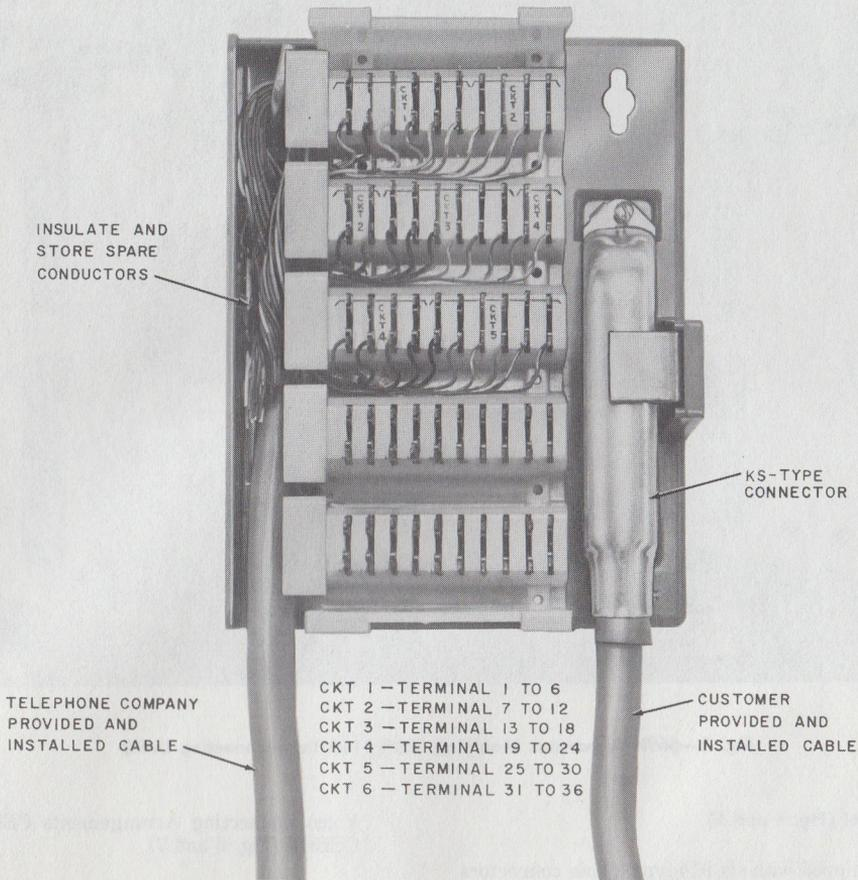

Fig. 3—66E3-25 Interface Connecting Block
- Block, Connecting, 66E3-25 (Fig. 3, as required)
numbers or lead designations should be stenciled on the connecting block (see Fig. 3 and Table C). The CP equipment must be located so that maximum loop resistance of the CA, CS leads does not exceed 50 ohms measured at the interface connecting block.
3.10 The customer must terminate the CP equipment to the KS-16672, List 3 connector on the 66E3-25 connecting block (Fig. 3) using an Amphenol No. 57-10500-7 plug, Cinch No. 223-32-50-023 plug, or equivalent.
Fig. 3 and Table D or E). The CP equipment must be located so that maximum loop resistance of the CA, CS leads does not exceed 50 ohms measured at the interface connecting block.
3.17 The customer must terminate the CP equipment to the KS-16672, List 3 connector on the 66E3-25 connecting block (Fig. 3) using an
5.02 Open circuit at 66E3-25 interface connecting block by removing the customer plug from the KS-type connector (Fig. 3). Perform the following tests.